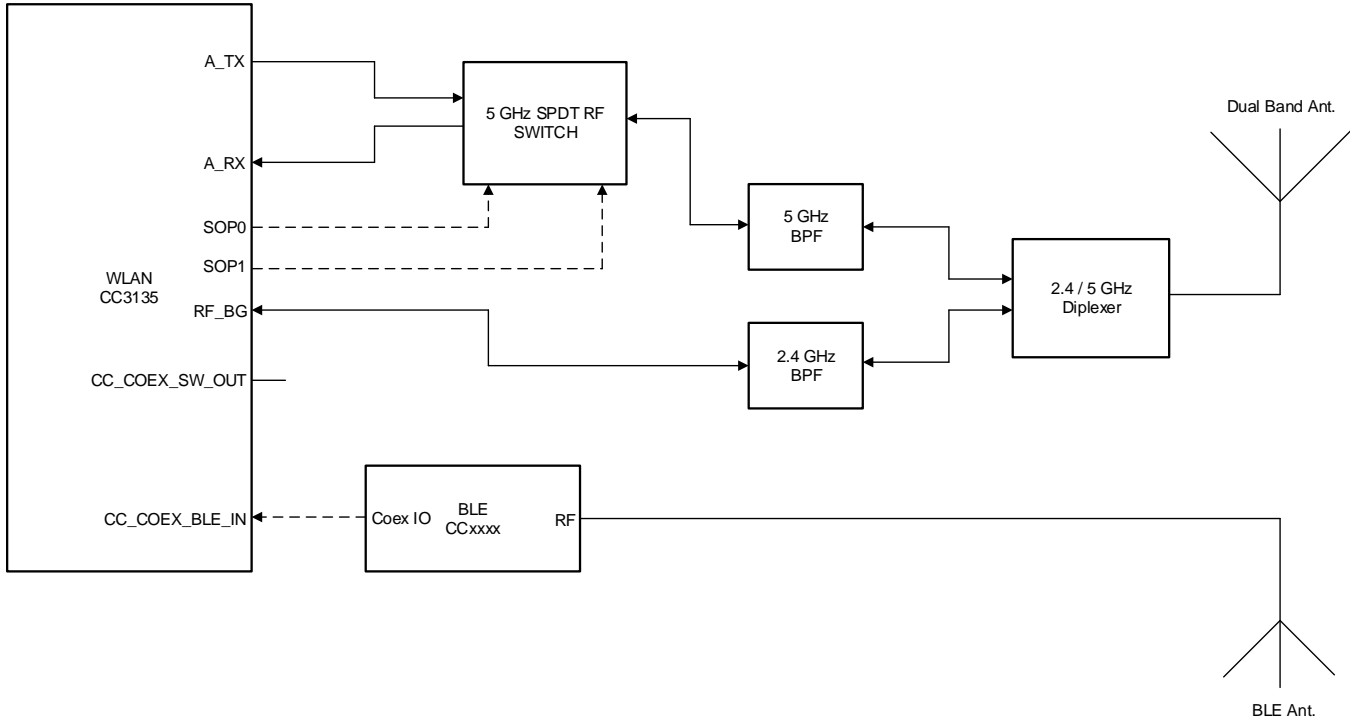

Figure 7-4. Dual Antenna Coexistence Solution with 5 GHz Wi-Fi®
- 5 GHz Wi-Fi band (see Figure 7-4)
Figure 7-4 shows the dual antenna implementation of a complete Bluetooth® low energy and WLAN coexistence network with the WLAN operating on either a 2.4- or a 5 GHz band. In this case, the 2.4 GHz and 5 GHz Wi-Fi share an antenna and the BLE has it's own dedicated antenna. The SOP lines control the 5 GHz switch. Note in this implementation no Coex switch is required and only a single GPIO from the BLE device to the CC3135 device is required.